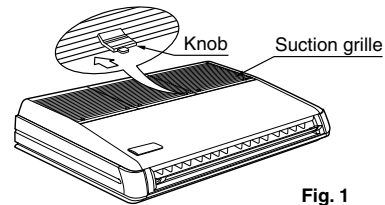

Fig. 1
- (1) Relation of holes for indoor unit, suspension bolt position, piping and wiring.**
- (2) Make holes for suspension bolts, refrigerant and drain pipe, and wire.**
(3) Remove the parts from the indoor unit.
- Slide the locking knobs (x2) on the suction grille inward (direction of arrows) and lift upwards. (Refer to Fig. 1)